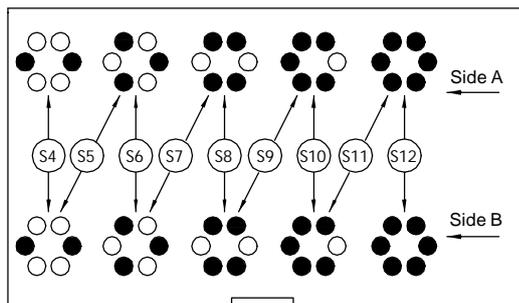

Fig. 12
C) Montaggio Cuffie (Part N° 30), figure 12, 13 e 14: